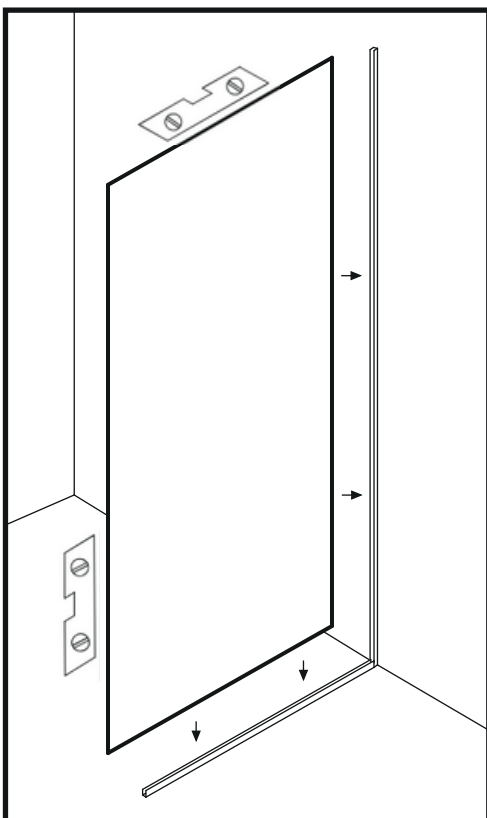

Figure 7
14. Place the shower glass between the U-profiles and press it both towards the wall and downwards so that the silicone adheres to the glass. (Figure 7)